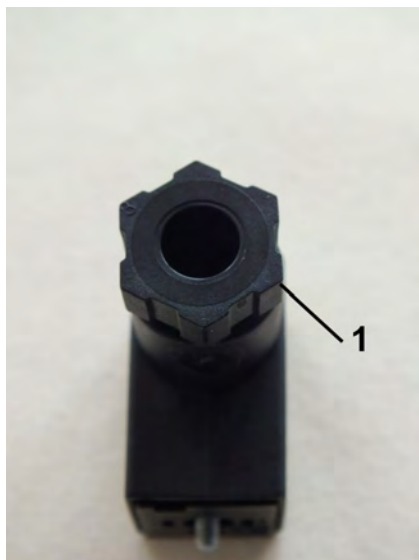

Fig. 24: Loosen the screw connection
4. ➤ Unscrew the screw connection (Fig. 24/1) by turning the connection to the left
8. ➤ Retighten the screw connection (Fig. 24/1) by turning it to the right until tight